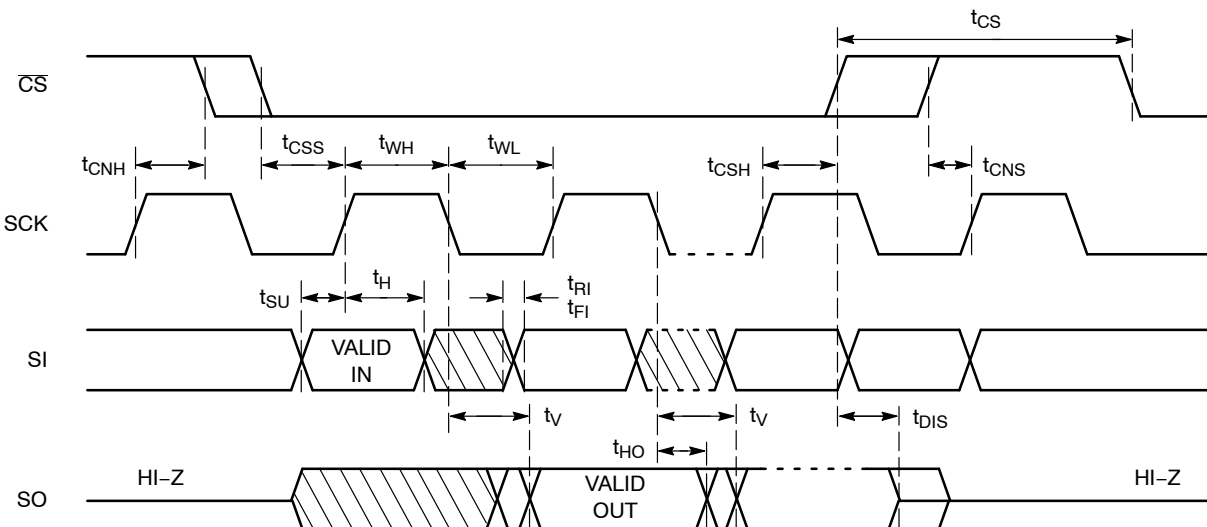

Figure 2. Synchronous Data Timing
8. t_{WC} is the time from the rising edge of CS after a valid write sequence to the end of the internal write cycle.9. **All Chip Select (CS) timing parameters are defined relative to the positive clock edge (Figure 2). t_{CSH} timing specification is valid for die revision D and higher. The die revision D is identified by letter “D” or a dedicated marking code on top of the package. For previous product revision (Rev.C) the t_{CSH} is defined relative to the negative clock edge.****Table 7. POWER-UP TIMING** (Notes 7, 10)
After a high to low transition on the $\overline{CS}$ input pin, the CAT25128 will accept any one of the six instruction op-codes listed in Table 10 and will ignore all other possible 8-bit combinations. The communication protocol follows the timing from Figure 2.